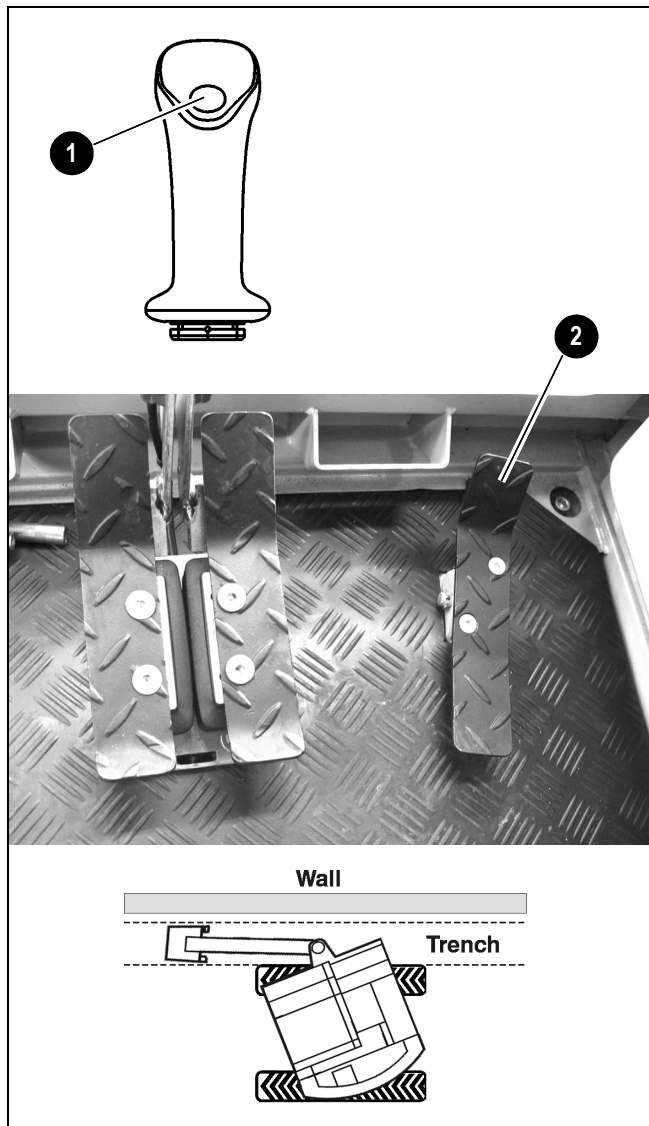

Figure 3-13 Boom Swivel
To swivel the boom without moving the swing frame, press and hold the swivel activation/changeover valve button (1, Figure 3-13) on top of the left-hand joystick, and press the auxiliary hydraulics pedal (2). Pressing down the toe of the auxiliary hydraulics pedal swivels the boom to the left. Pressing down the heel of the pedal swivels the boom to the right.